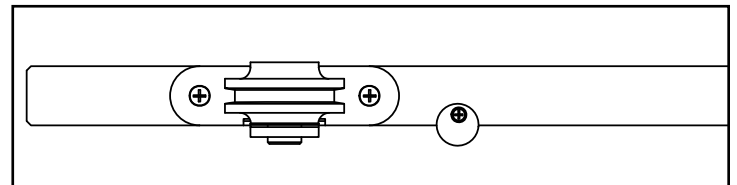

Figure 15. Installing Anti-Jump Disks with Top Mounted Hangers.
1. Position the disks as seen in Figure 15.
2. Secure with (2) #8 X 3/4" wood screws (keep anti-jump disk loose enough for future rotation; to be tightened in later steps).